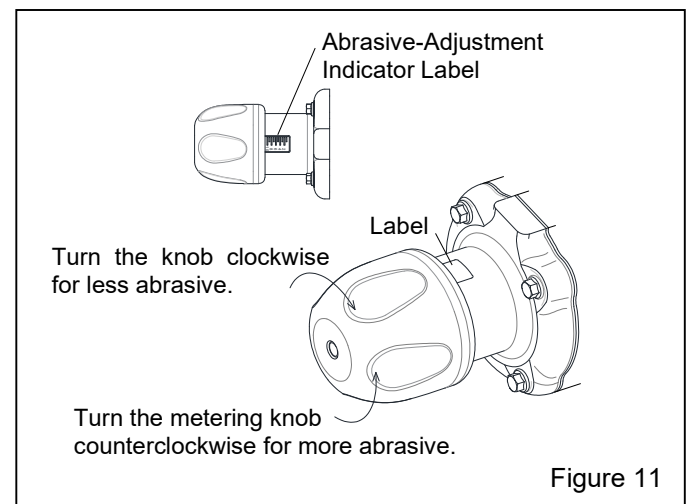

Figure 11
4.1 Adjust Abrasive Flow – Figure 11
4.1.1 The valve is closed when the knob is fully clockwise. Increase abrasive flow by turning the knob counterclockwise and decrease abrasive flow by turning the knob clockwise, as shown in Figure 11. Begin with the knob set two turns from fully closed. Adjust abrasive flow by turning the knob no more than 1/4 turn before rechecking flow. Continue adjusting as described until the correct flow is attained.